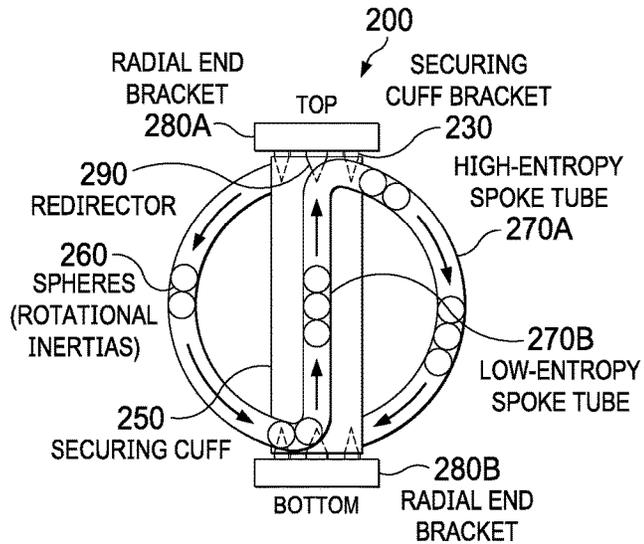
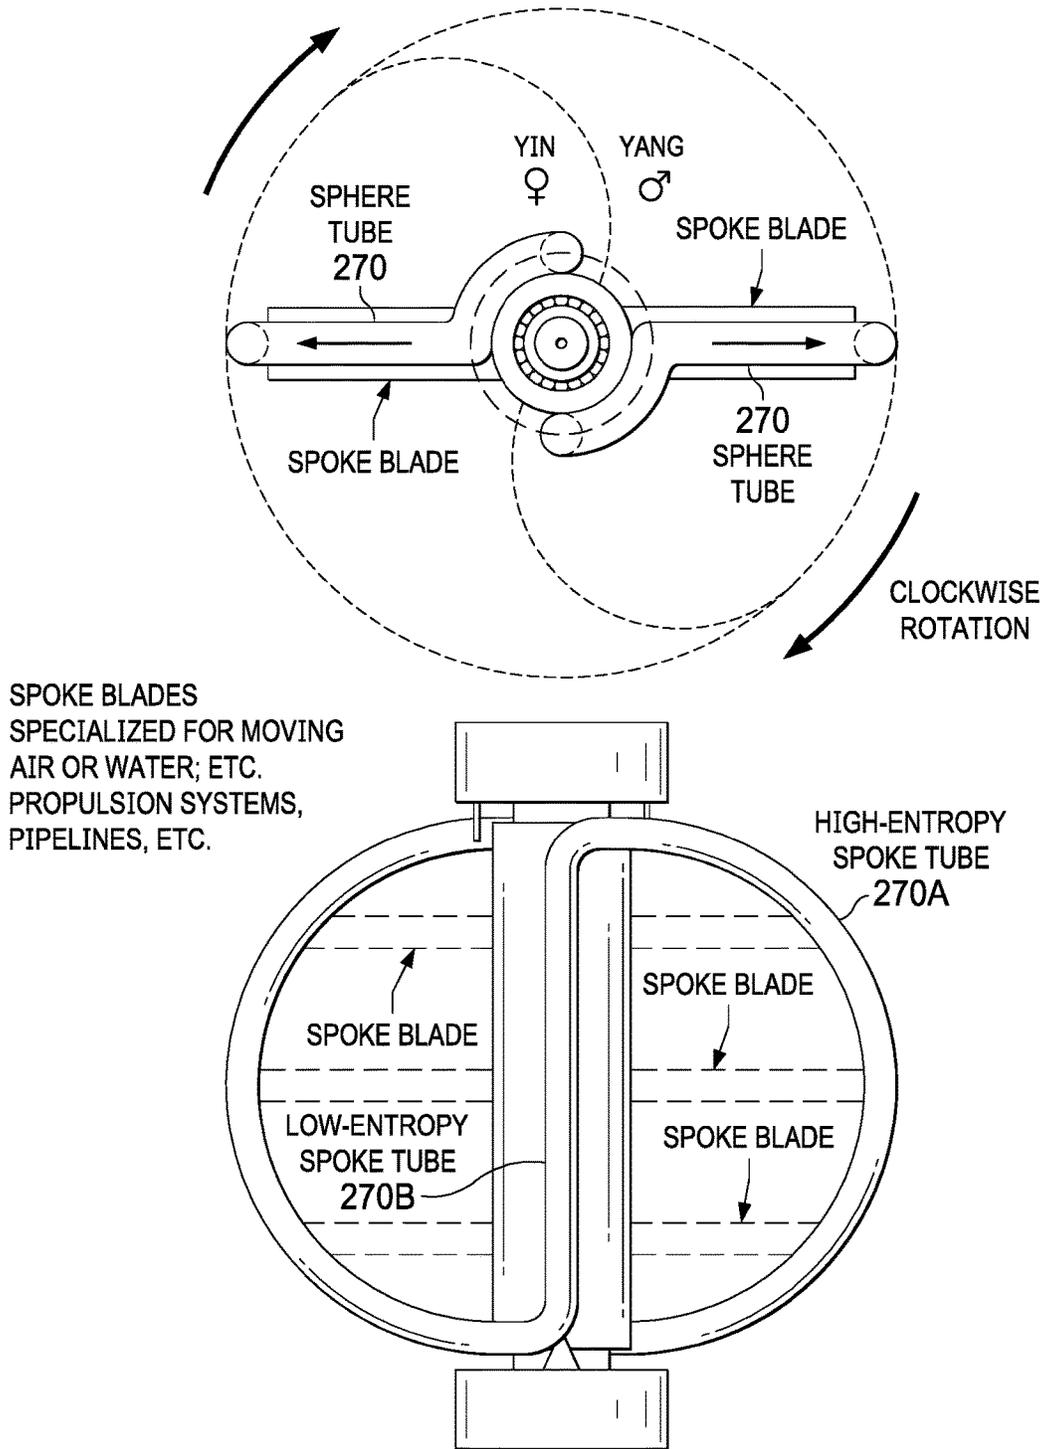

FIG. 2A
**FIG. 3**
**[0012]** FIGS. 2A through 2E, FIG. 3 and FIG. 4A-4C show an InfinityScrew, according to an embodiment of the disclosure;